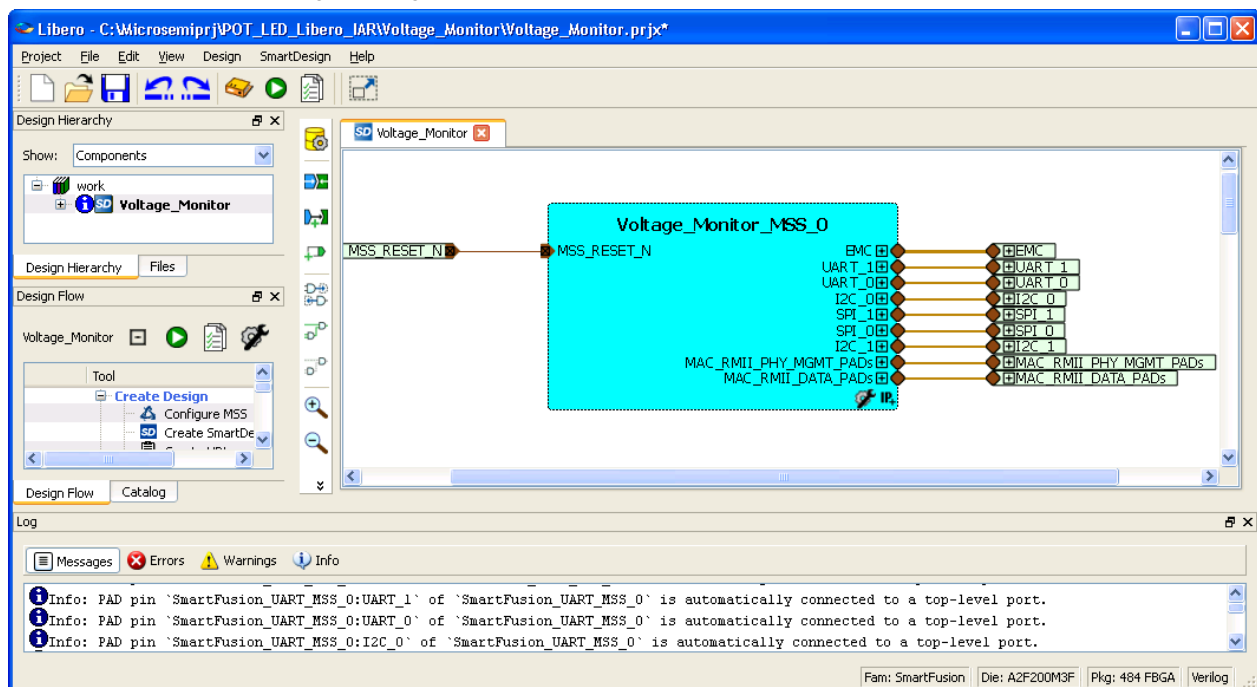

Figure 3 · The Libero Window After Creating New Project Wizard
5. The project is created and the Libero SoC window is displayed, as shown in Figure 3 . The SmartDesign “Voltage\_Monitor” is created with the instantiation of MSS component.